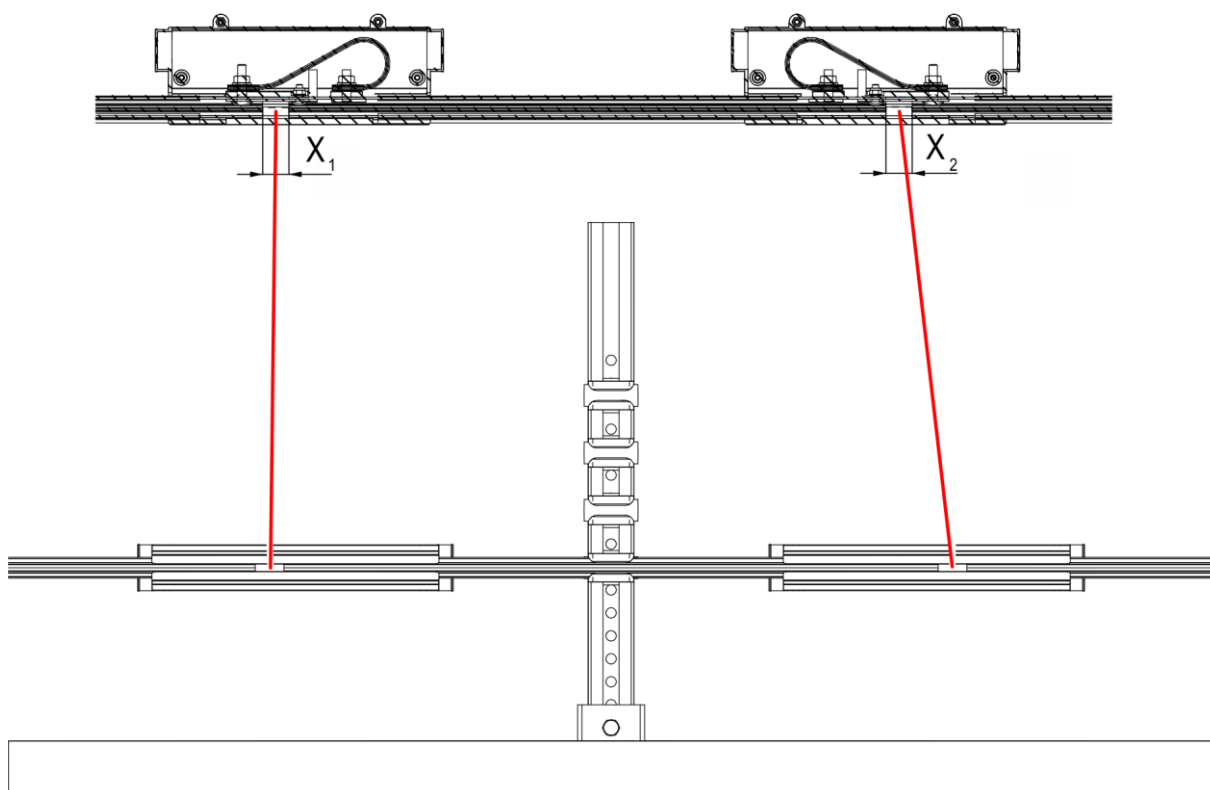
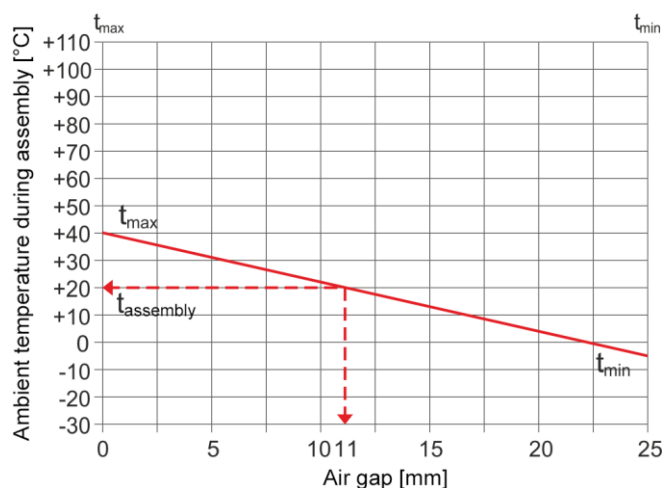

Fig. 95: Air gap in the expansion unit
Fig. 96: Determine the size of the air gap
- The size of the air gap depends on the ambient temperature during installation. Determine the air gap dimension, consisting of the expansion point dimensions x_1 and x_2 (see Fig. 95), using the diagram (see Fig. 96 or the template diagram in Section 12.2). Set the determined dimension from below. The dimension does not need to be set symmetrically at the expansion points.